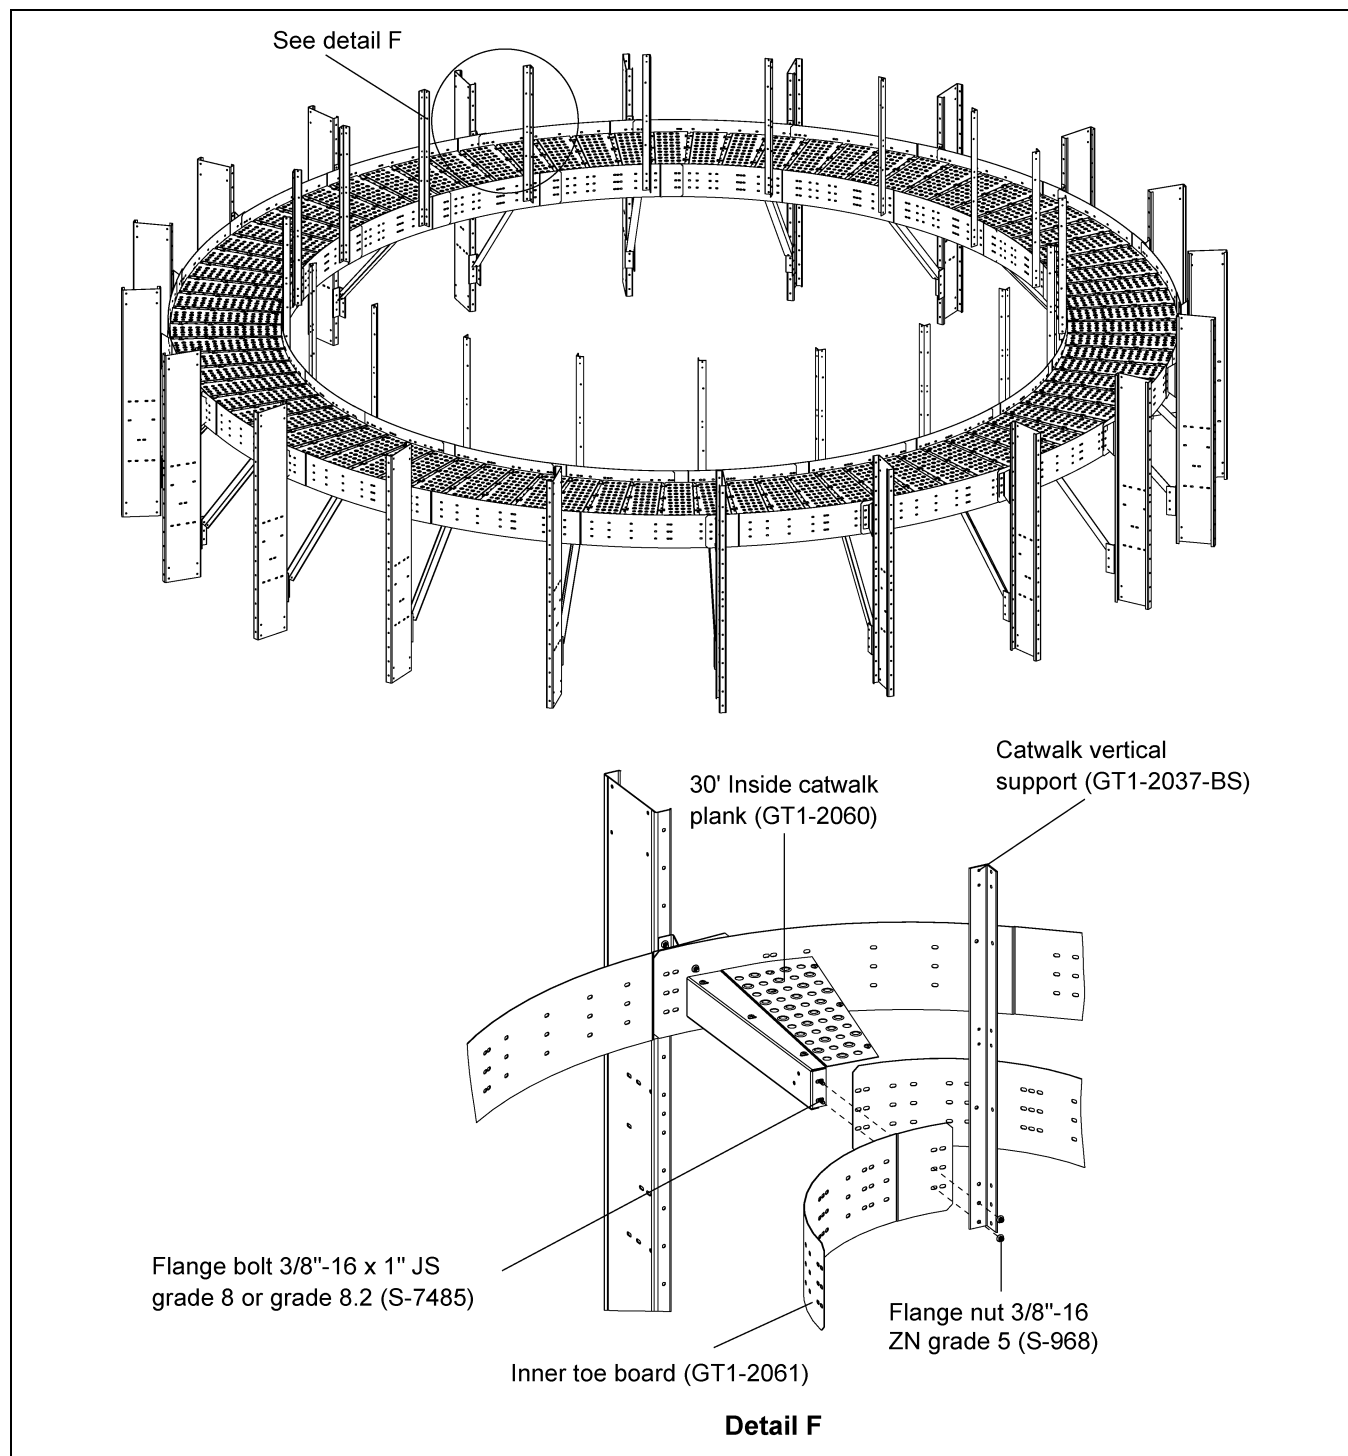

Figure 5J
1. Install all the inner toe boards (GT1-2061) to the planks (GT1-2060). *(See Figure 5J.)*
2. When installing the inner toe board with planks, install the catwalk vertical support (GT1-2037-BS) simultaneously at proper locations using 3/8"-16 x 1" JS grade 8 or grade 8.2 bolts (S-7485) and 3/8"-16 ZN grade 5 nut (S-968). *(See Figure 5J.)*